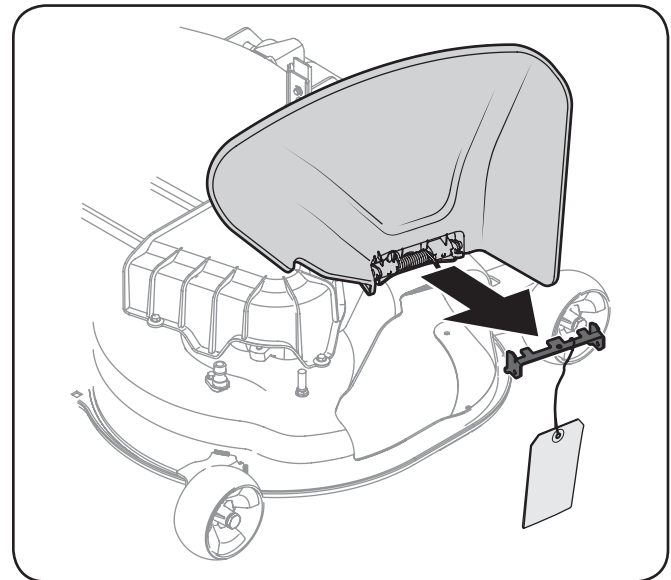

Figure 2
1. Check the mower deck for a shipping brace that may be holding the chute deflector upward for shipment. If the brace is present, it must be removed before operating the tractor. Holding the chute deflector fully upward, remove the shipping brace. Lower the chute deflector and discard the shipping brace. See Figure 2.